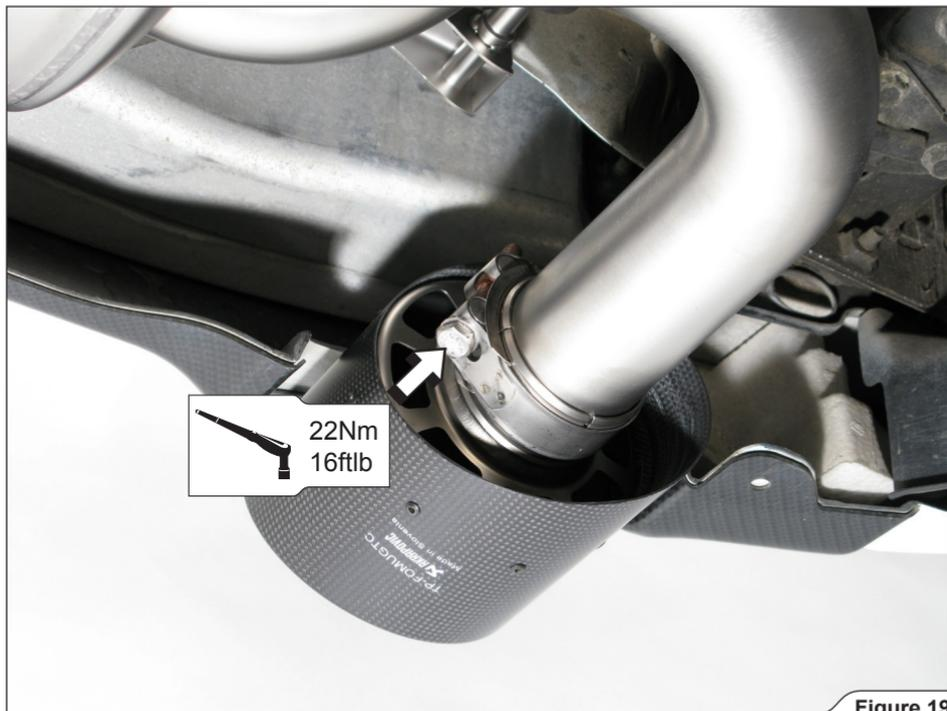

Figure 19
11. **For Slip-On and Evolution:** tighten the tail pipe clamps to a specified torque (**Figure 19**).